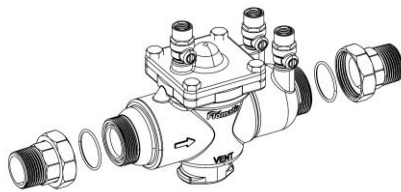

Figure 3: Assembly of RPZ Device with BSP adapters
- To assemble the device with different fittings, the appropriate adaptor set must be fitted to the inlet and outlet as shown in Figure 3. Refer to the part list at the end of this manual.